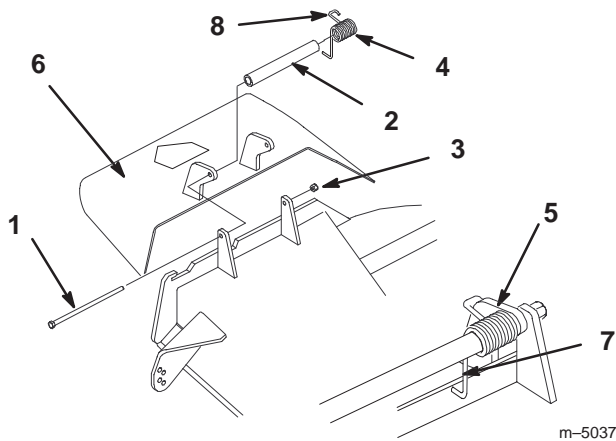

Figure 70
1. Remove the locknut, bolt, spring and spacer holding the deflector to the pivot brackets (Fig. 70). Remove damaged or worn grass deflector.
Note: Make sure the L end of spring is installed behind deck edge before installing the bolt as shown in figure 70.
3. Install bolt and nut. Place J hook end of spring around grass deflector (Fig. 70).